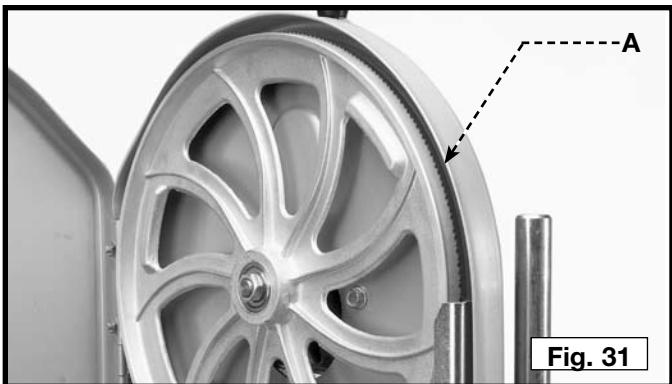
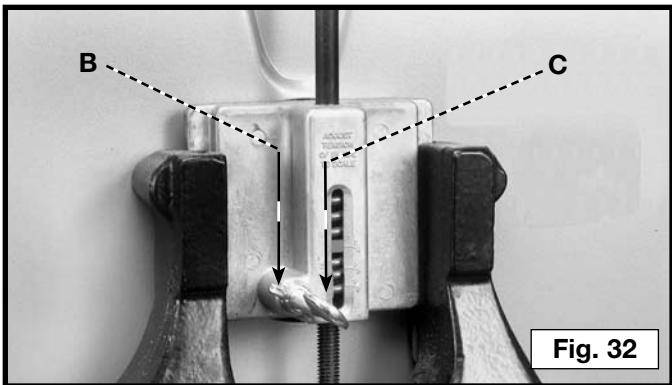

Fig. 31
Fig. 32
After applying tension to the blade, rotate the wheels slowly forward by hand and observe the blade's movement. The blade (A) Fig. 31 should travel in the center of the upper tire. If the blade creeps toward the front edge, loosen the wing nut (B) Fig. 32 and turn the thumb screw (C) clockwise. This action draws the blade toward the center of the tire. If the blade creeps toward the back edge, turn the thumb screw in the opposite direction. Adjust the thumb screw (C) Fig. 32 only a fraction of a turn each time.
After the blade is tracking in the center of the tires, tighten the wing nut (B) Fig. 32.